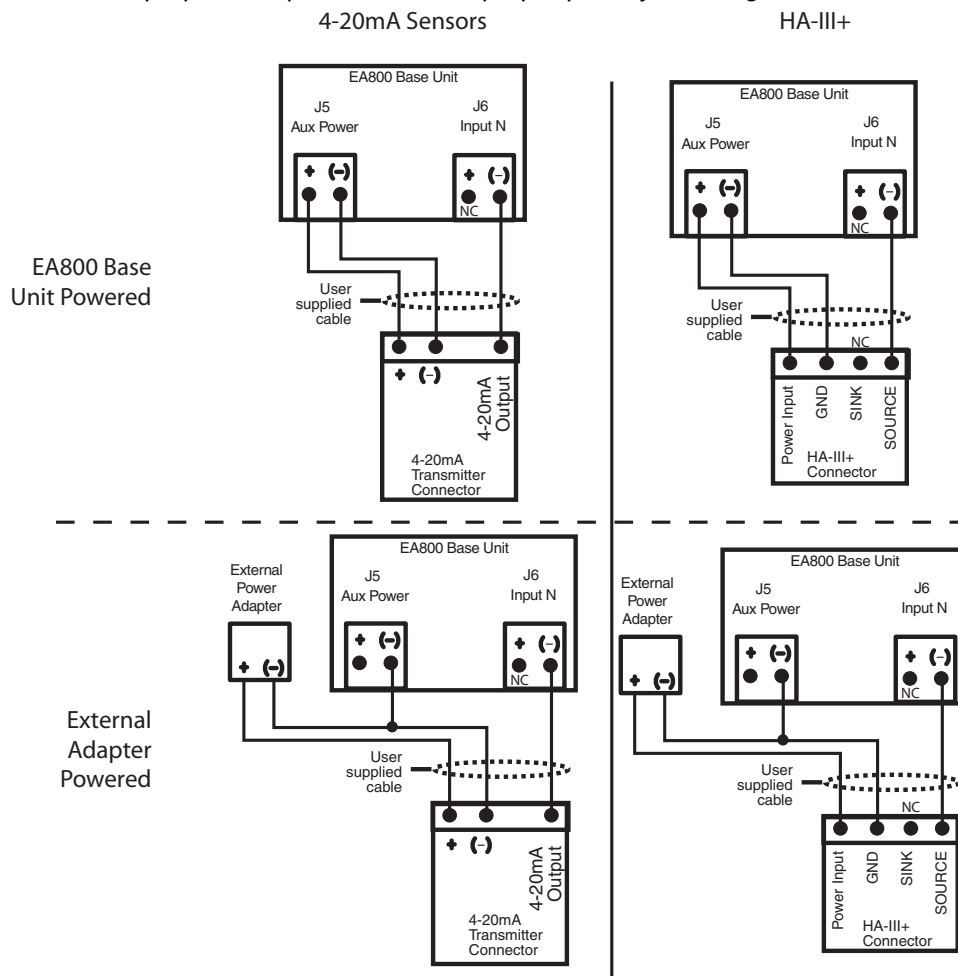

**Figure 12 EA800 Base Unit Wired Temperature, Contact Closure, and Water Bug Sensor Connections**
- Insert the stripped wire ends into screw terminals of the adapter as indicated by the EA800 Wiring Diagram you completed in the preparation phase. See Figure 12.